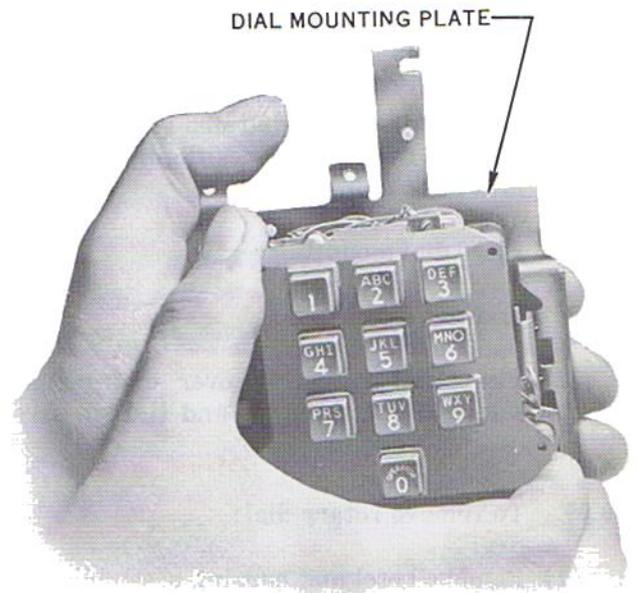

Fig. 24 - Lifting Dial From
- (10) Grasp dial on diagonal corners (Fig. 24) and lift out. This method of handling dial will prevent damage of dial contacts.